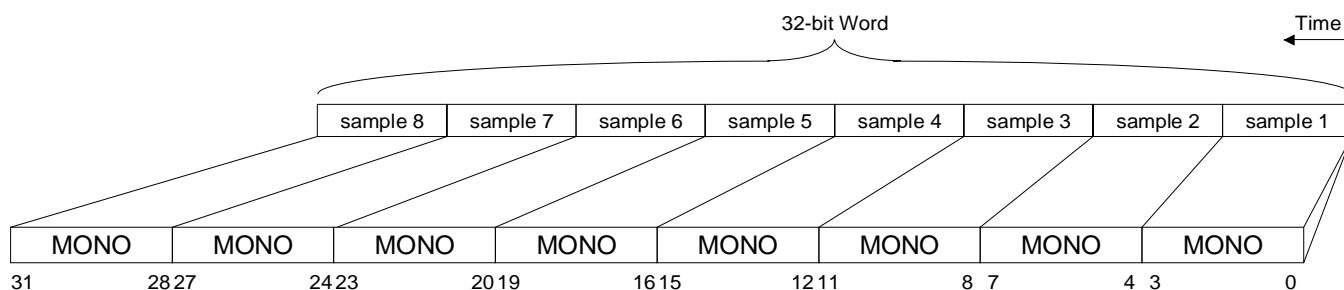

Figure 16. 4-bit Mono, ADPCM Audio Data
Additional data formats are supported in MODE 2 and 3: 4-bit ADPCM, and 16-bit signed Big Endian. See Figures 16 through 19. With the addition of the Big Endian and ADPCM audio data formats, the WSS Codec is compliant with the IMA recommendations for digital audio data formats (and sample frequencies).
on the specifics of the format, contact the IMA at (410) 626-1380. Figures 16 and 17 illustrate the ADPCM data flow.